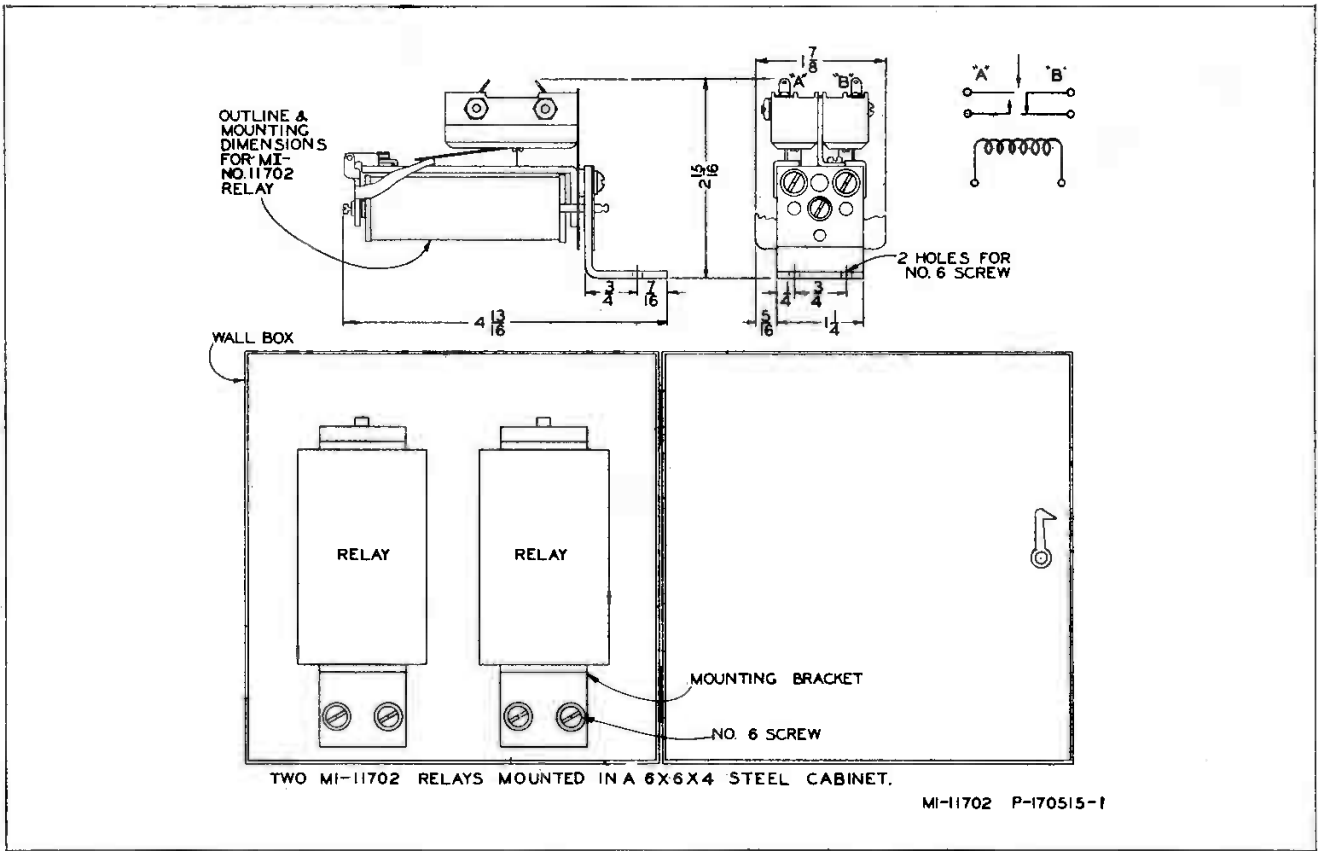

Figure 6—Relay Mounting Cabinet
- Two mounting boxes (See figure 6).
The relays should be mounted in metal boxes of the type specified in figure 6, which also shows mounting dimensions.
- One mounting box (see figure 6).
The relay should be mounted in a metal box as specified in figure 6 and installed near the control room. Conduits for the control room signal lights are shown in figure 11. Relay energizing voltage is supplied by the voltage drop across the 180-ohm, 20-watt resistor which is connected in series with the high side of the relay supply circuit of the MI-11301-B Power Supply (see figure 14). Connections should be made as follows:
- Connect the a-c supply of the Control Room "On Air" light through the open terminals of the MI-11702 relay (marked "A" in fig. 6) so that the light will be on when the relay is on.
- One Mounting Box (see figure 6).